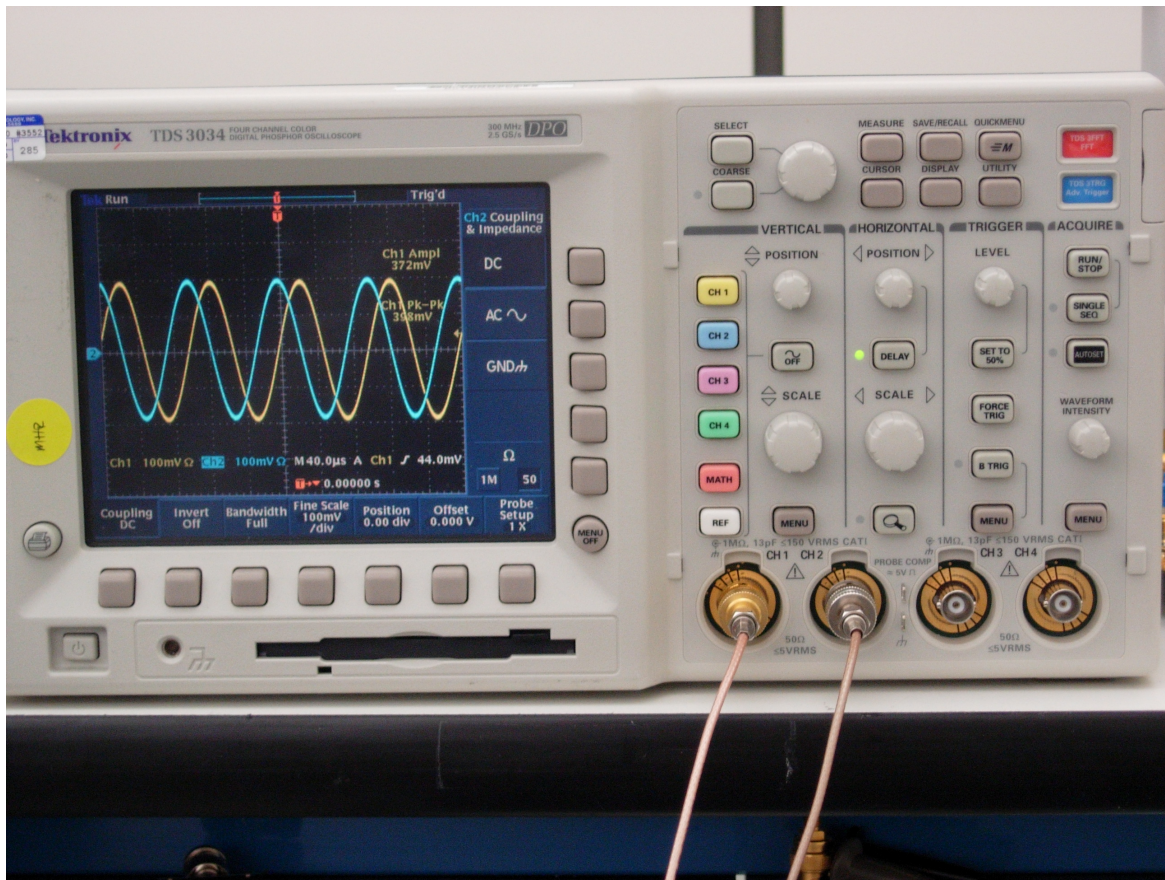

Figure 21. CW Outputs
- The CW outputs (J12, J13) display the frequency I and Q signals at 10 kHz as shown in Figure 21. The GUI Gain Control Feedback Resistor can be used to vary the amplitude of the outputs.